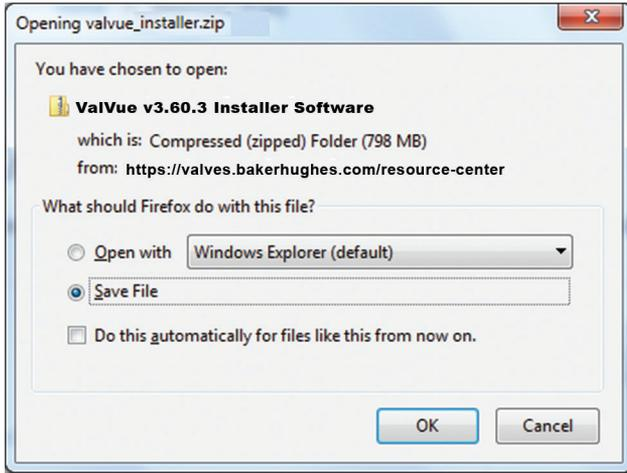

Figure 26 - Opening Dialog
2. Click **Download** below ValVue Installer Download and Figure 26 appears.